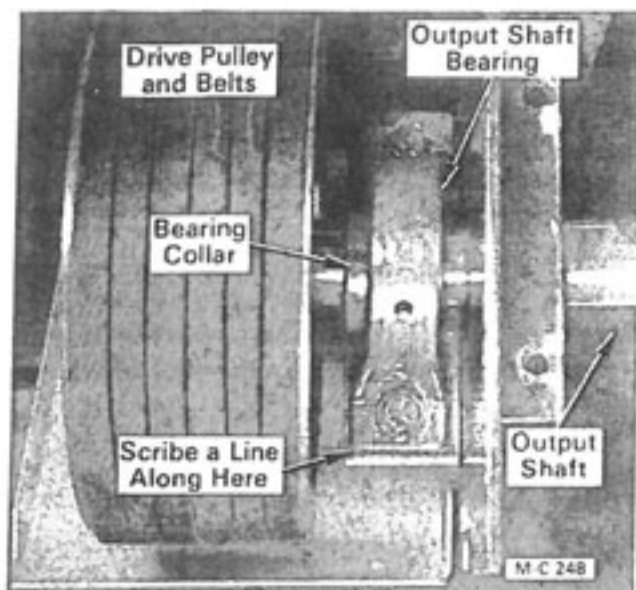
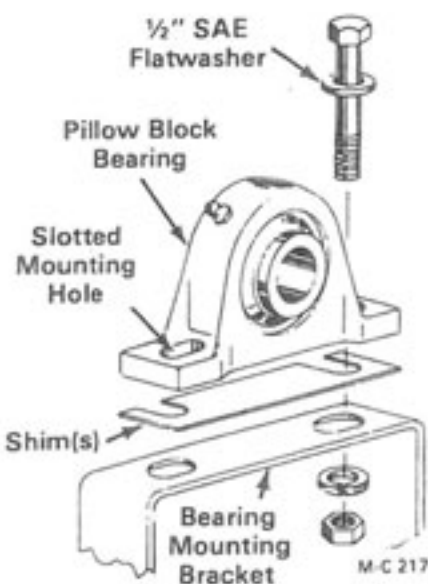

Figure 43
Figure 44
4. Scribe a line on the output shaft bearing mounting bracket as shown in Figure 43 page 24 to establish the location of the new bearing when reassembling.
5. Remove the two set screws in the bearing lock collar, two capscrews, flatwashers, lockwashers and hex-nuts securing the output shaft bearing. Loosen the output shaft center bearing cap screws. Lift up on the output shaft and remove the shims from under the output shaft bearing, see Figure 44 page 24.
10. Lift up on the output shaft and place the shims on the output shaft bearing mounting bracket, see Figure 44. Install the capscrews, SAE flatwashers, lockwashers and hex-nuts. Align the edge of the output shaft bearing with the mark scribed on the mounting bracket made in step 4, see Figure 43. Tighten the output shaft bearing capscrews and two set screws in the bearing lock collar. Tighten the center bearing capscrews.
3. Scribe a line on the output shaft outer bearing mounting bracket to establish the location of the bearing for reassembly, see Figure 43. Remove the two capscrews, flatwashers, lockwashers and hex nuts securing the output shaft bearing to the bearing mount.
10. Lift up on the output shaft and place the shim(s) that were removed in disassembly on the outer output shaft bearing mounting bracket, see Figure 44. Install the capscrews, SAE flatwashers, lockwashers and hex-nuts. Align the edge of the output shaft bearing with the mark scribed on the mounting bracket made in step 3, see Figure 43. Tighten the output shaft bearing capscrews.